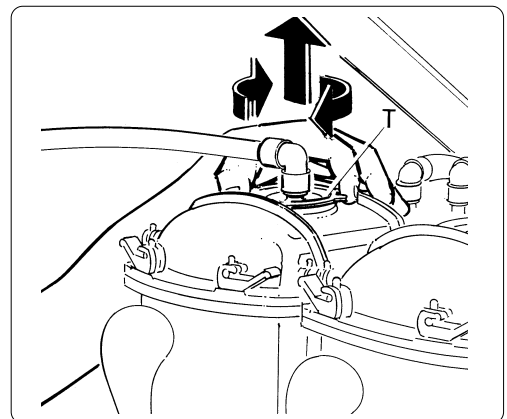

Fig. 20
h) Remove the CIP (T) from the cover, turning anticlockwise, then lift it off (fig. 20).